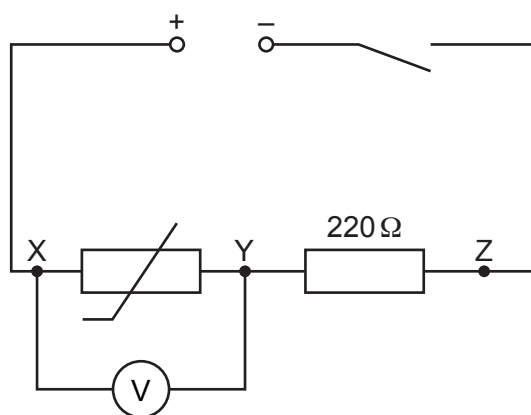

Fig. 2.1
- sufficient connecting leads to assemble the circuit shown in Fig. 2.1 (see Note 5)
- 5 The supervisor must assemble the circuit shown in Fig. 2.1 for the candidates in advance of the examination. The thermistor must be placed inside the beaker. Terminals X, Y and Z must be labelled. The connecting leads to the thermistor must be long enough to allow the thermistor to rest on the bottom of the beaker, which must be at least 30cm distant from the rest of the circuit.
The circuit must be restored to its original state as shown in Fig. 2.1, with the switch open.